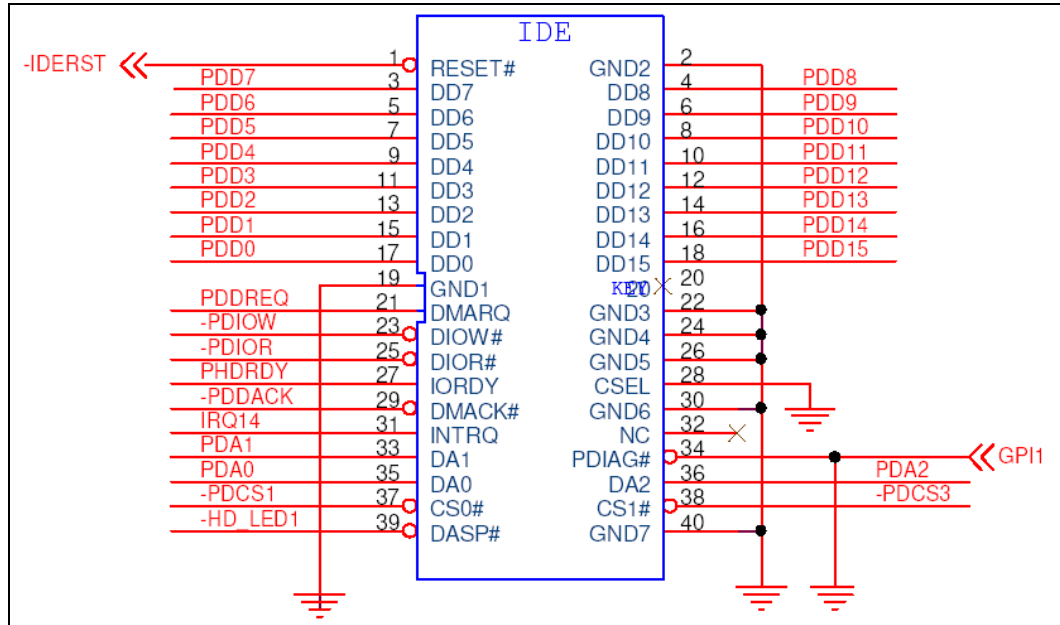

Figure 4-9: Secondary IDE Device Connector Locations
- CN Location:** See Figure 4-9